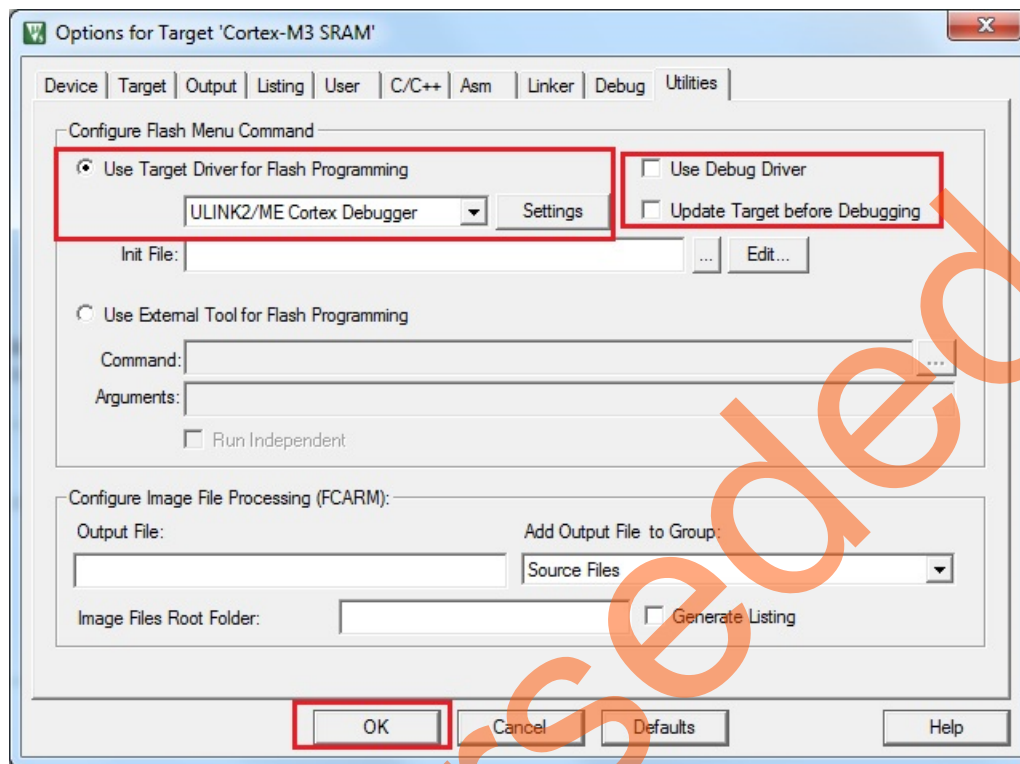

Figure 32 • Target Options - Utilities Settings
14. Select **ULINK2/ME Cortex Debugger** from the drop-down list and click **OK** as shown in Figure 32.